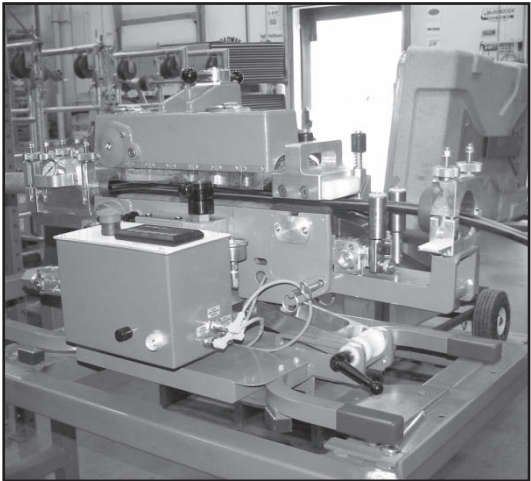

Figure 34
- I. Lower top Housing and arrange Micro Duct according to the track configuration. You can now start pushing and blowing the Micro Duct. (Figure 34)